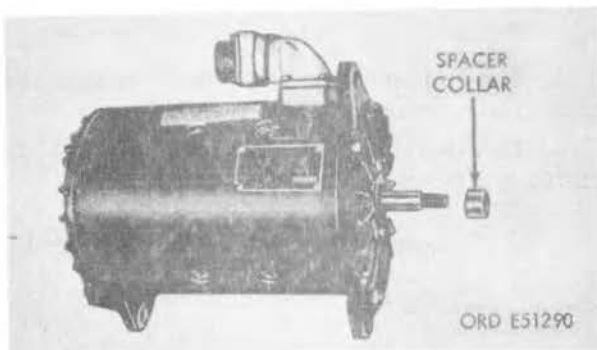

FIGURE 8. REMOVING SPACER COLLAR.
a. Refer to figure 8 and remove spacer collar from shaft of armature.